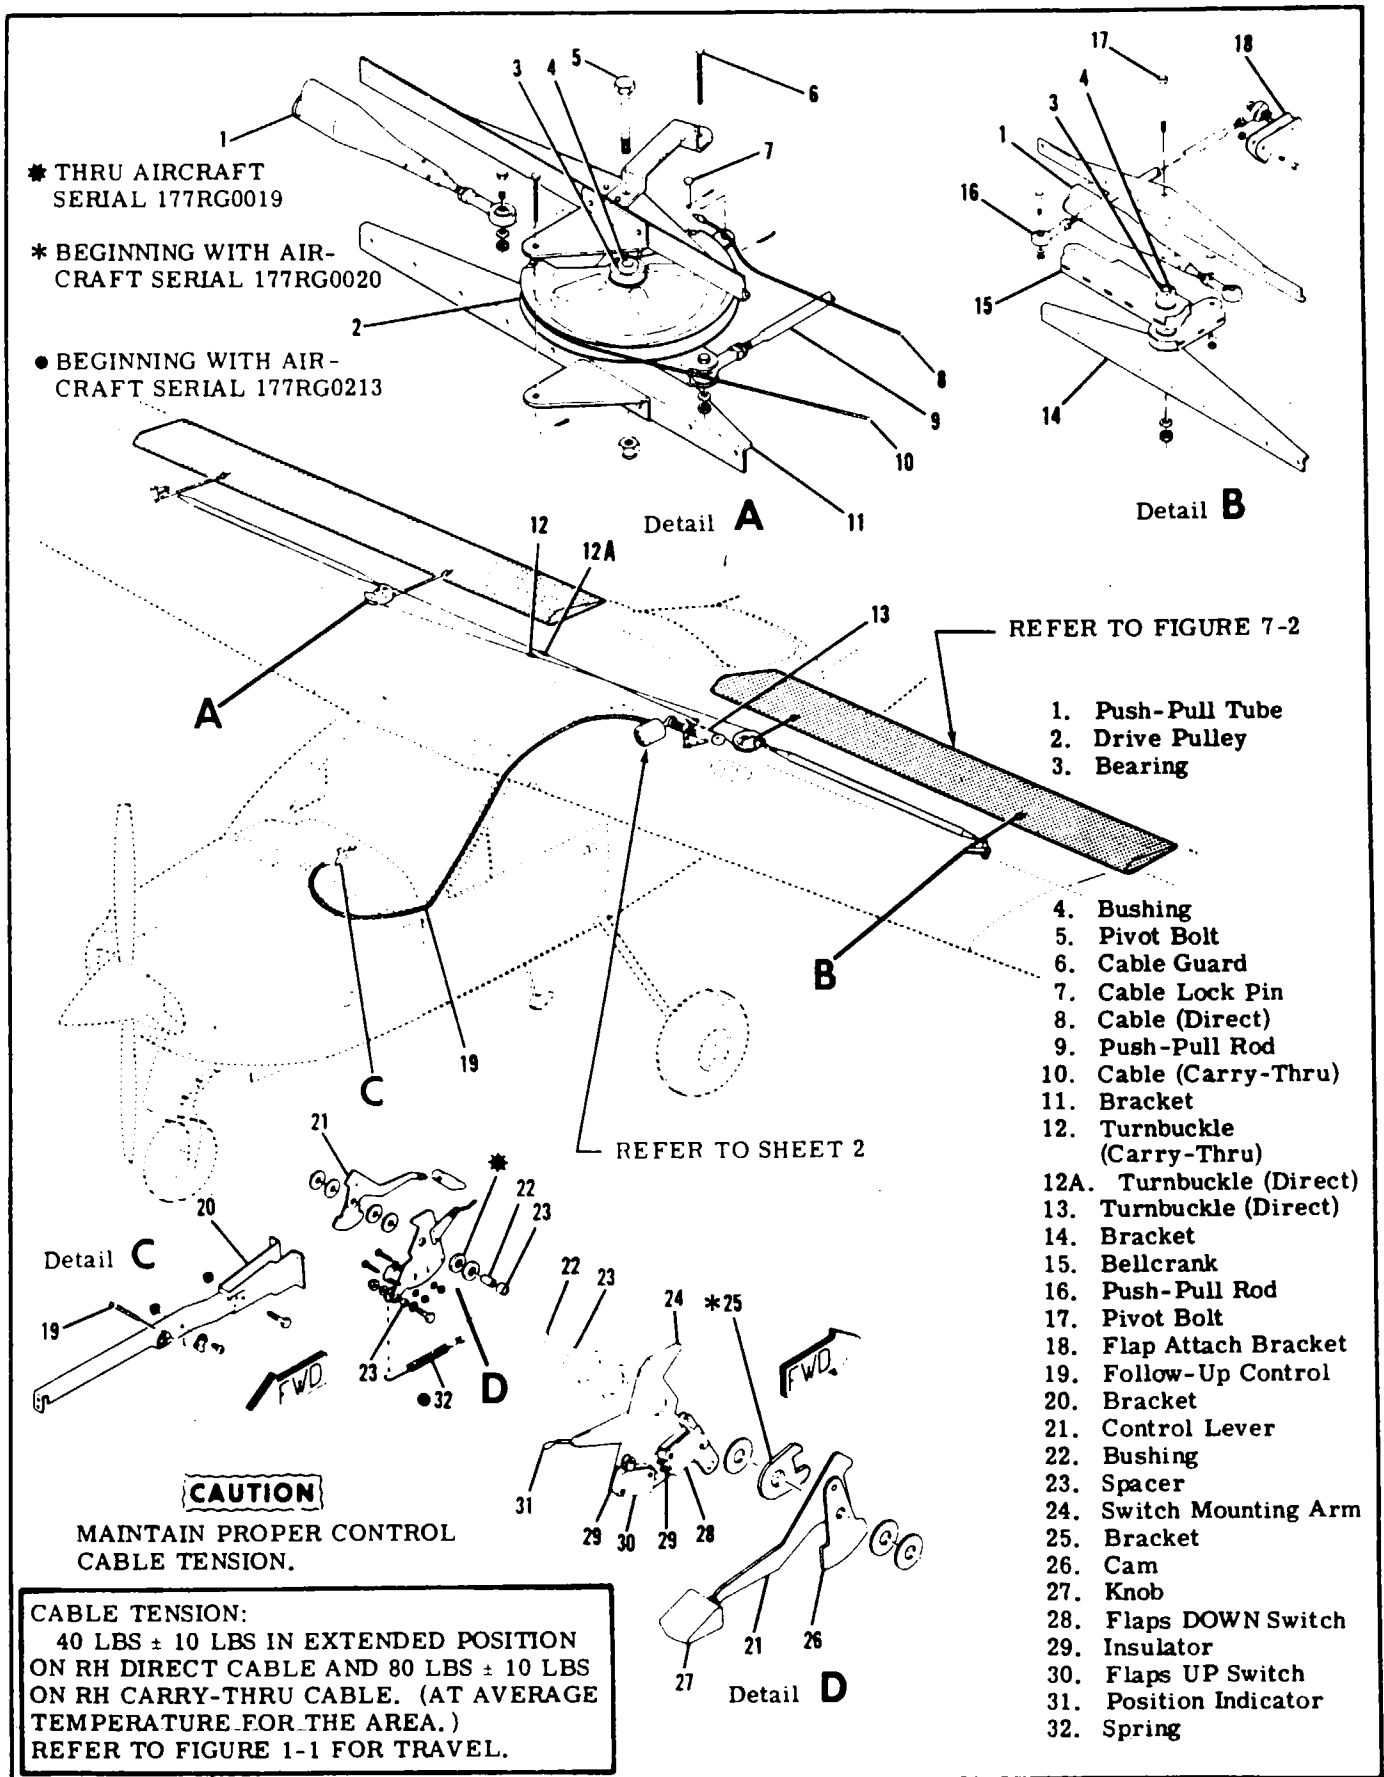

Figure 7-1. Flap Control System
7-1. WING FLAP CONTROL SYSTEM. (Refer to figure 7-1.)
- d. (Refer to figure 7-1.) Remove headliner access cover, remove safety wire and relieve cable tension at turnbuckles (12 and 12A).
7-9. REMOVAL AND INSTALLATION. (Refer to figure 7-1.)
7-11. REMOVAL AND INSTALLATION. (Refer to figure 7-1.)
7-14. REMOVAL AND INSTALLATION. (Refer to figure 7-1.)
7-20. REMOVAL AND INSTALLATION. (Refer to figure 7-1.)
2. (Refer to figure 7-1.) Remove headliner access cover, remove safety wire, relieve cable tension and disconnect turnbuckles (12 and 12A).
3. Disconnect push-pull rods (9) at both drive pulleys (2).
4. Disconnect push-pull rods (16) at both bellcranks (15).
13. Run flaps DOWN and adjust DOWN-LIMIT switch (18) to operate and shut-off motor at the 30°+2°-0° position.
14. (Refer to figure 7-1.) Operate control lever (21) and run flaps to the full UP position.
15. Disconnect follow-up control (19) at switch mounting arm (24).
16. Without moving the control lever (21), move arm (24) until cam (26) is centered between switches (28 and 30). Ensure switches are centered in their